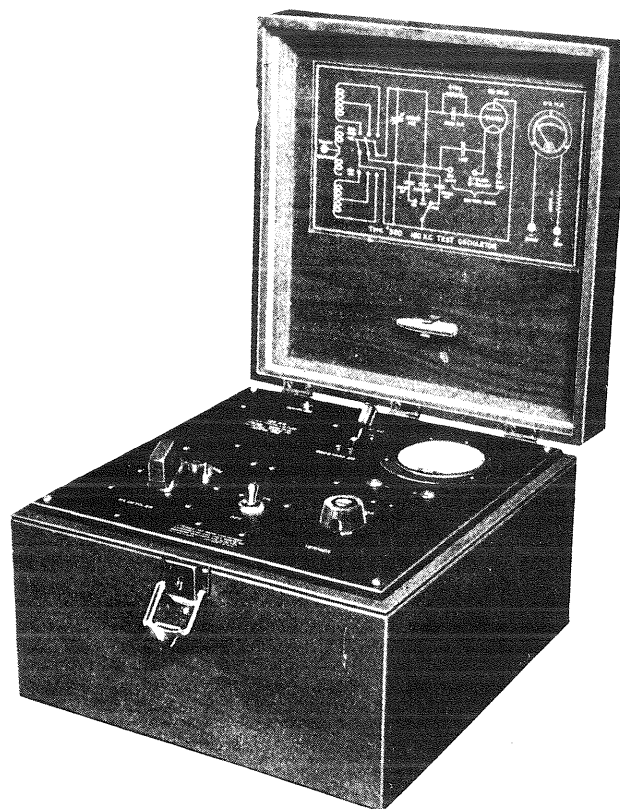

Figure 16—180 K.C. Test Oscillator
1. A Test Oscillator (Driver). See Figure 16.